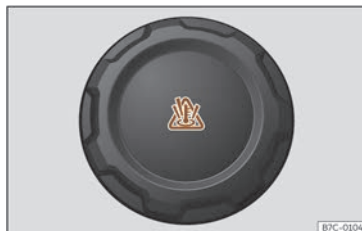

Fig. 223 Front compartment: coolant expansion tank cap.
- The motor coolant expansion tank can be recognised by the symbol on the cap ⚠ >>> **Fig. 223**